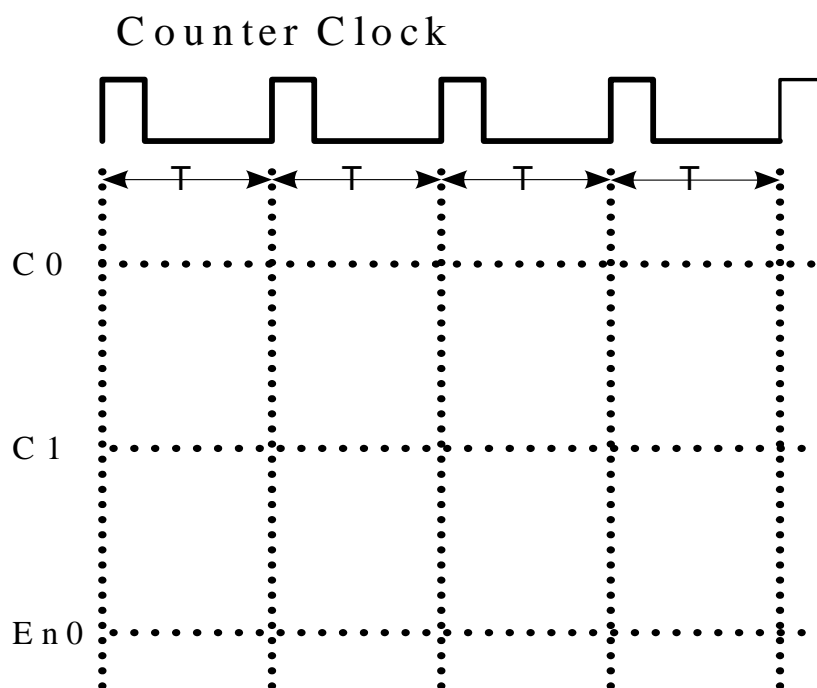

Figure 9.3: Timing Diagram
- If the counter outputs are designated C1C0, you are required to sketch the waveforms of C0, C1, and the En0 signals for 4 clock cycles. Use figure 9.3 for this purpose assuming that C1C0=00 after first clock pulse.
- Assuming the counter input clock to have a period T , from the timing diagram of Figure 9.3 determine the following: